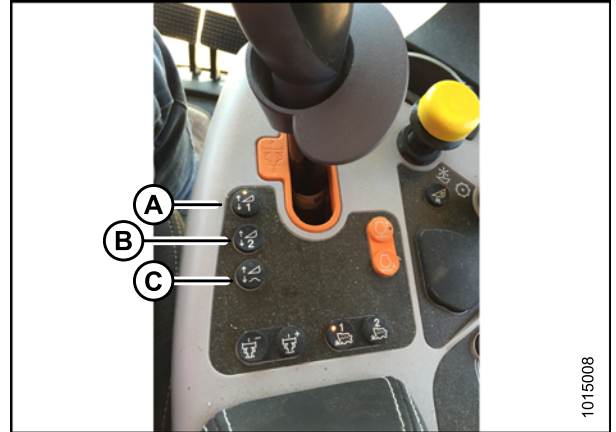

Figure 4.131: New Holland Combine Controls
5. Select one of auto height set point buttons shown in Figure 4.131, page 151.